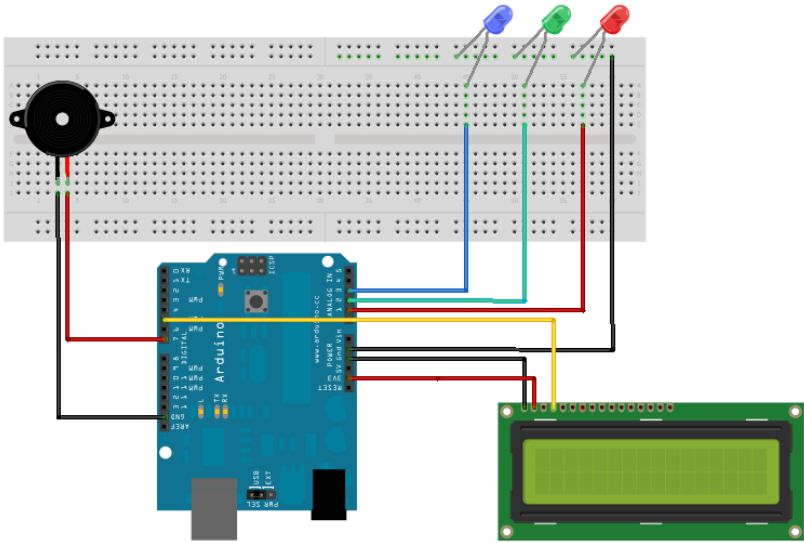

Figure 5-3. Step three.
3. Connect the LCD unit to Arduino (Figure 5-3). The data line connects to Arduino digital pin 5, the power line connects to Arduino 3.3 v pin, and GND line connects to GND.